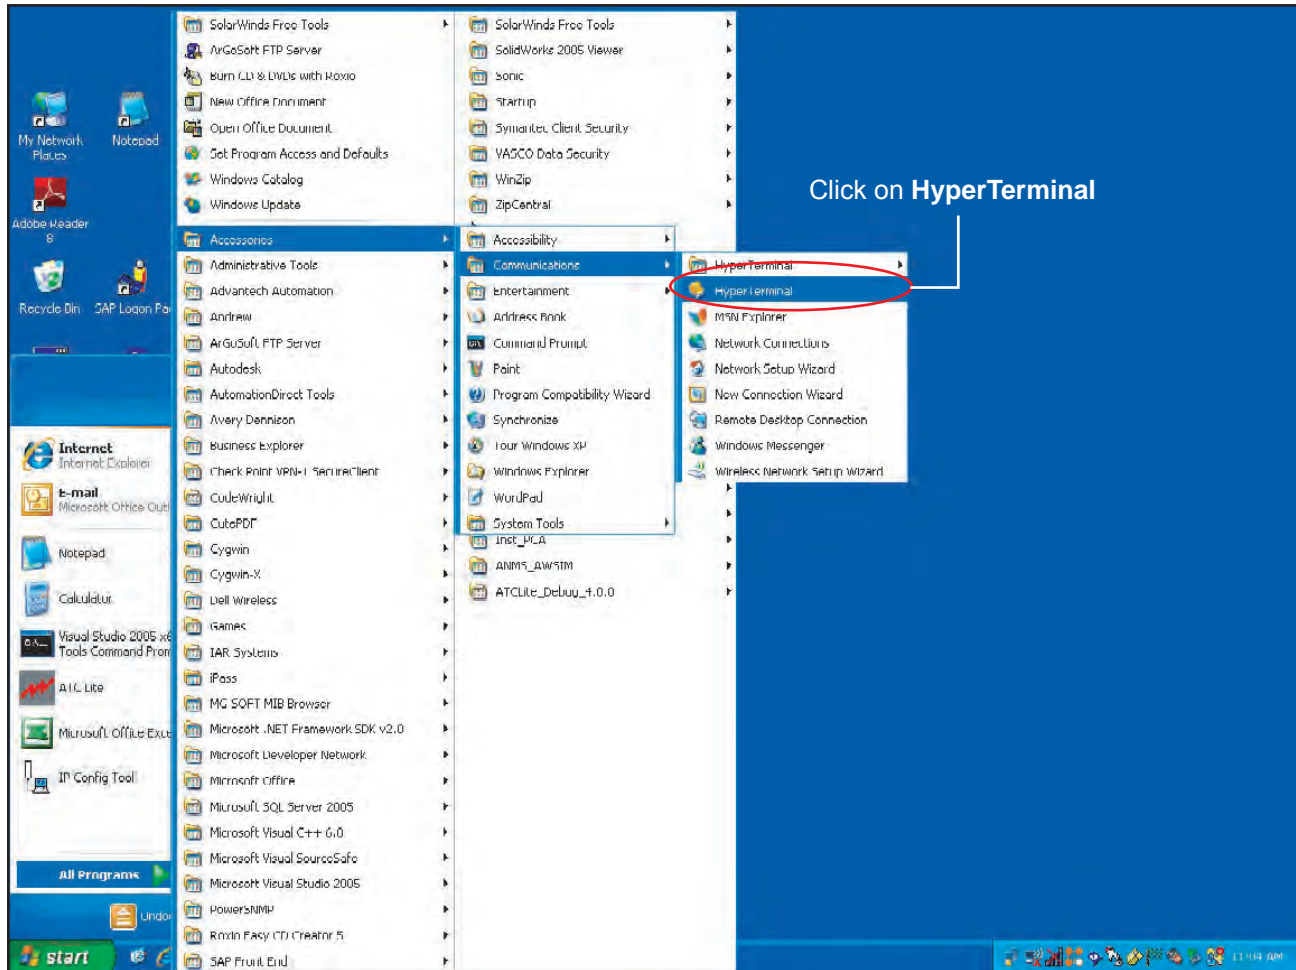

Figure 5-2. Network Connection Window.
3. Go to **Start** → **All Programs** → **Accessories** → **Communications** → **HyperTerminal** (Figure 5-2).